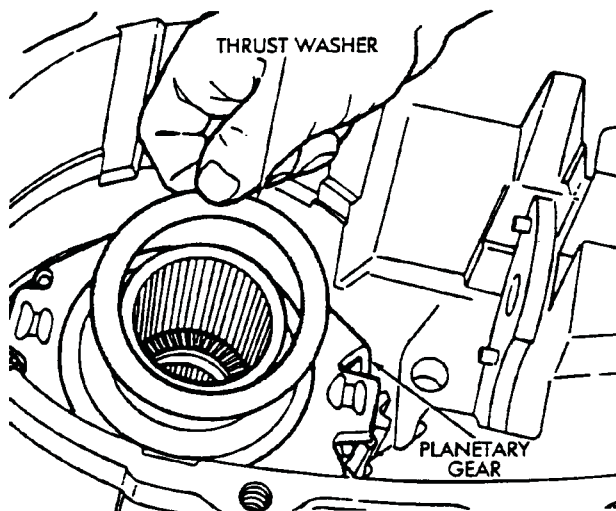

Fig. 4-20 Remove Planetary Thrust Washer
27. Remove thrust washer from planetary gear hub (Fig. 4-20).